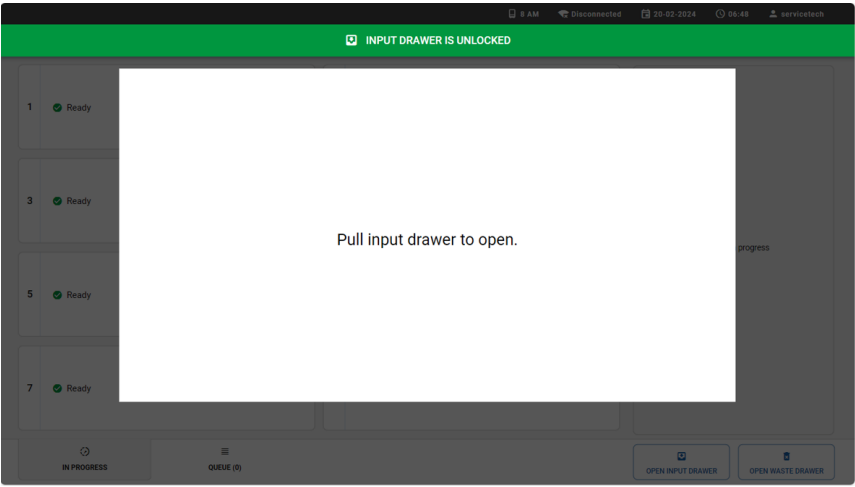

Figure 13. Input drawer open dialog.
- When prompted, pull the input drawer to open (Figure 13). Depending on instrument status it can take a moment for the drawer to unlock. Note that the input drawer will be automatically locked, if no interaction is performed.